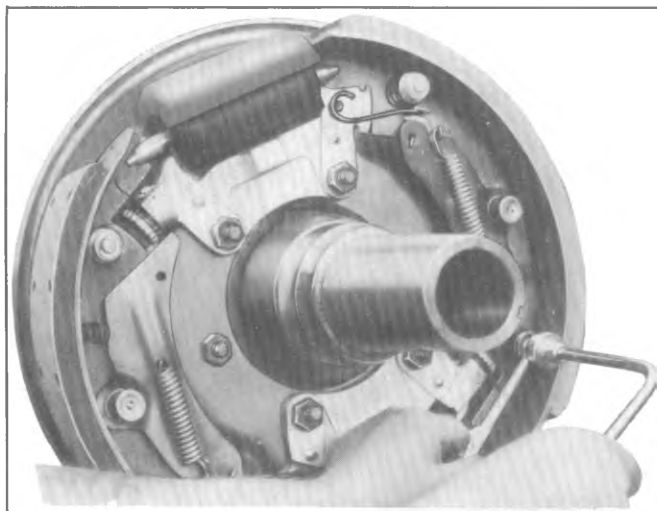

Fig. 5-49--Removing Hold Down Pins Using J-22348
5. Remove the brake shoe hold down springs and pins by compressing the spring with Tool J-22348 and, at the same time, pushing the pin back through the flange plate toward the tool. Then, keeping the spring compressed, remove the lock from the pin with a magnet (fig. 5-49).